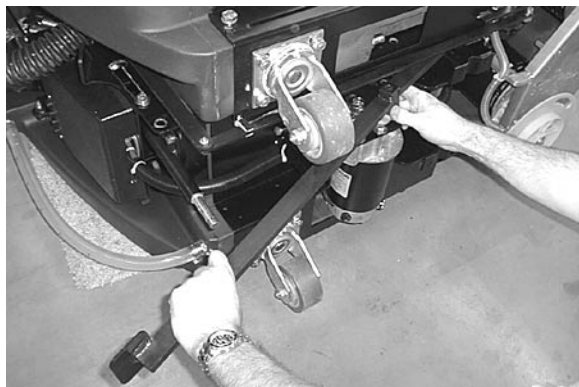

Fig. 12
11. Now remove the old scrub head lift pedal from the machine (Figure 12),